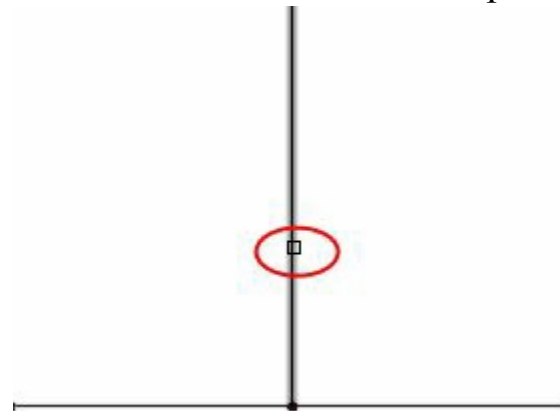

Figure-62. First point of bending
- Click on the wire at desired point; refer to Figure-62.